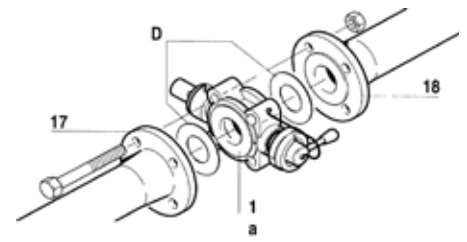

Figure 5
6.2.1 Step-by-step installation (Figure 5, 6)